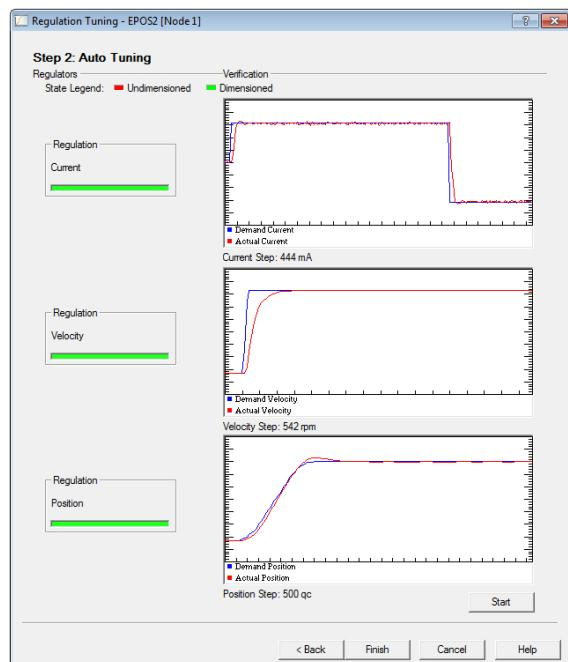

Figure 3-32 End of Auto Tuning
- Auto Tuning is complete as all three status bars changed to green (→Figure 3-32).